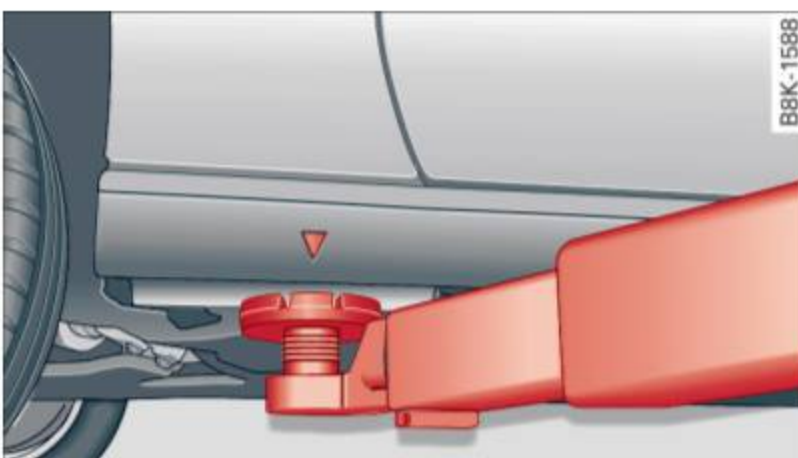
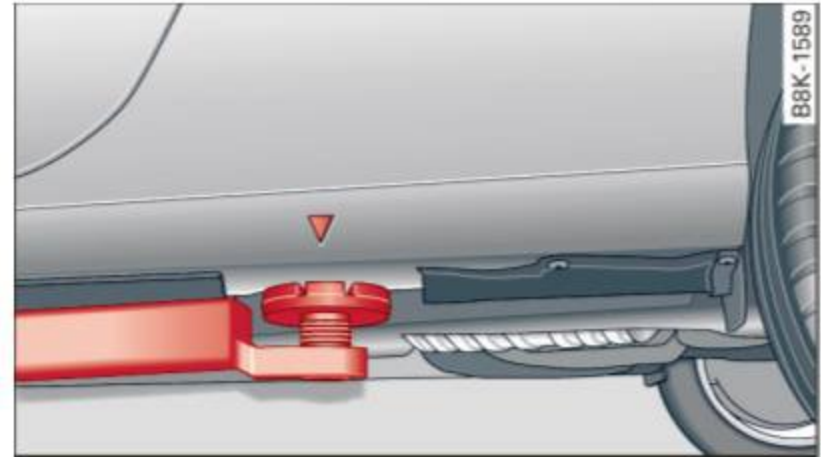

Fig. 194 Front lifting point
Fig. 195 Rear lifting point
- ▶ Locate lifting points ⇒ *fig. 194* and ⇒ *fig. 195*.
The lifting point is located on the floor pan reinforcement about at the same level as the jack mounting point ⇒ *fig. 194*. **Do not lift the vehicle at the vertical sill reinforcement.**
The lifting point is located on the vertical reinforcement of the lower sill for the onboard jack ⇒ *fig. 195*.
- Always lift the vehicle only at the special workshop hoist and floor jack lift points illustrated ⇒ *fig. 194* and ⇒ *fig. 195*.